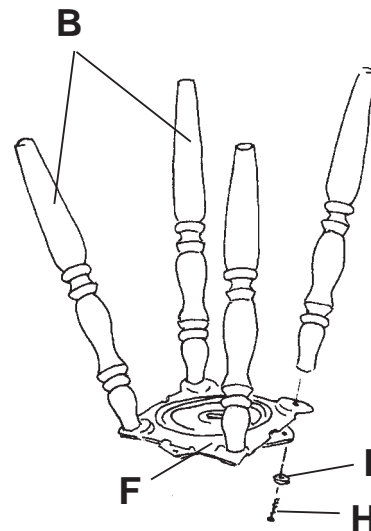

FIG. 2
- 2) The top ends of the legs are pre-drilled. Fasten one leg (B) to each corner of the swivel (F) with a 5/16" x 3" lag bolt (H) and a 5/16" washer (I) as shown in FIGURE 2. Do not over tighten the bolts as you may strip the wood.